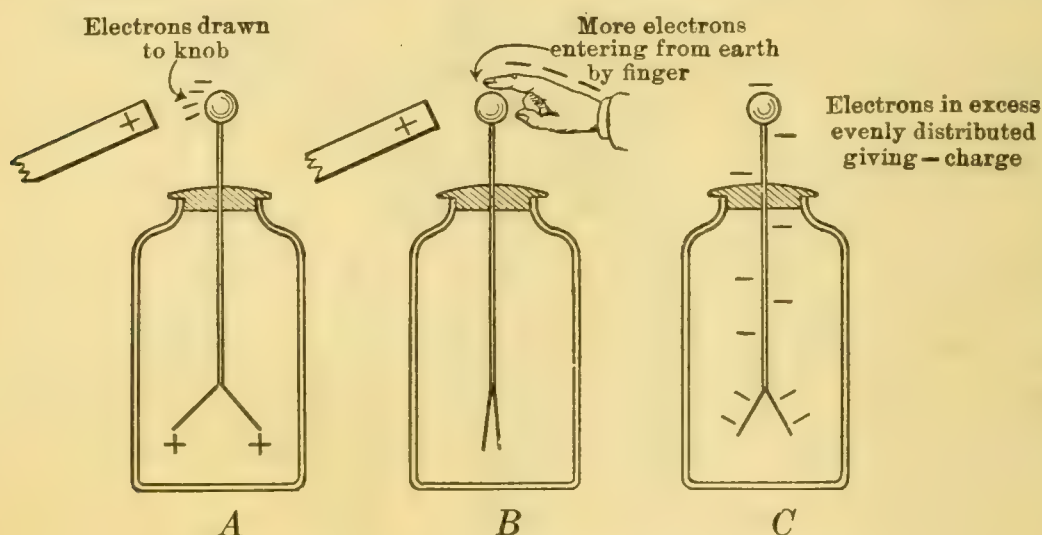

FIGURE 422. — CHARGING AN ELECTROSCOPE.
1. Bring a positively charged glass rod near, *but not touching*, the knob. The leaves diverge (Figure 422, A).
2. Holding the glass rod in place, touch the knob with the finger. The leaves collapse (Figure 422, B).
3. Withdraw first the finger, then the glass rod. The leaves diverge with a *negative* charge (Figure 422, C).
electrons ($-$), which are always present in a conductor, are attracted upward by the $+$ glass (Figure 422, A). This causes some of the atoms in the leaves to be *short of electrons*, that is, to be *positively charged*. Touching the knob with the finger permits electrons from the earth, which is to be regarded as a reservoir of electricity, to flow through the conducting path formed by the body (Figure 422, B) and supply the deficiency in the leaves. This causes the leaves to fall together, because the atoms are made neutral, that is, uncharged. The electrons in the knob do not move, because they are held *bound* by the attraction of the $+$ glass rod. When the finger and the $+$ glass rod are removed, there is
now an excess of electrons in the metallic parts of the electroscope and the leaves diverge because of the negative charge that each contains (Figure 422, C). The student should work out a similar explanation, with an opposite direction of motion of the electrons, for the process of charging the electroscope positively.